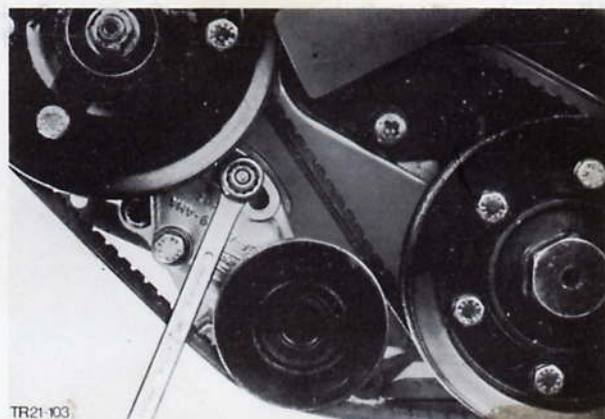

Fig. 129. Slacken vacuum pump V-belt tensioner
5. Slacken vacuum pump V-belt tensioner (1 bolt and 1 nut), Fig. 129 and alternator bracket (4 bolts) and remove both V-belts.